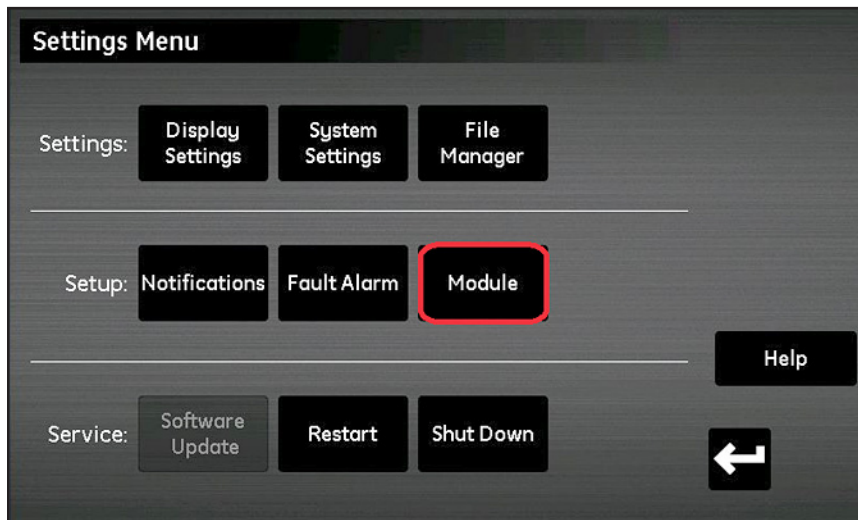

Figure 94: Module Update
- In the **Setup** section, tap the **Module** button (see *Figure 94* below).